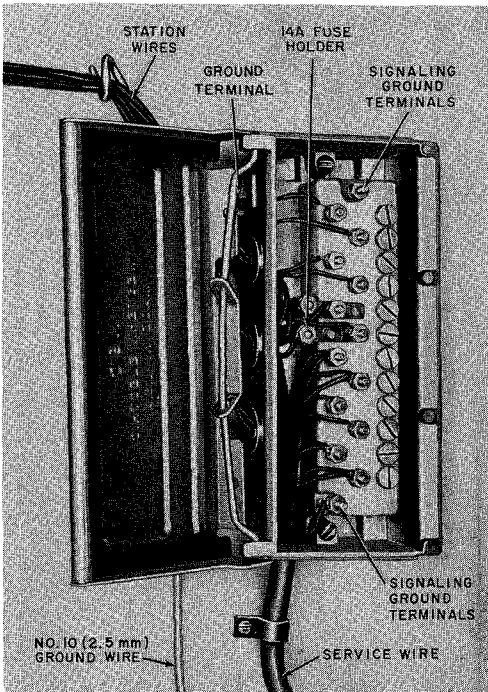

Fig. 13—116C Protector
3.15 The 116C protector (Fig. 13) consists of a nonconductive base containing twelve binding posts, twelve 2A1A protector units, and two binding posts for signaling ground connections. The base is housed in a metal container with a hinged metal cover. The metal housing is equipped with a clamp for the station ground wire. The wire used to ground the 116C protector should be